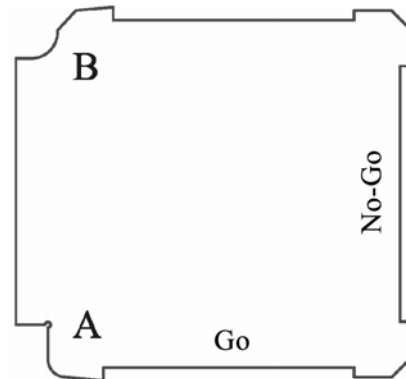

Fig.1 Contour Gauge
2. Rim contour gauge uses the “Go-No Go Gauge” principle, which is used to measure the main items of correlation between rim and tire. e.g. rim width, flange width, flange height, flange radius, tire bead seat angle, tire bead seat radius, the profile shall be shown in Fig. 1.